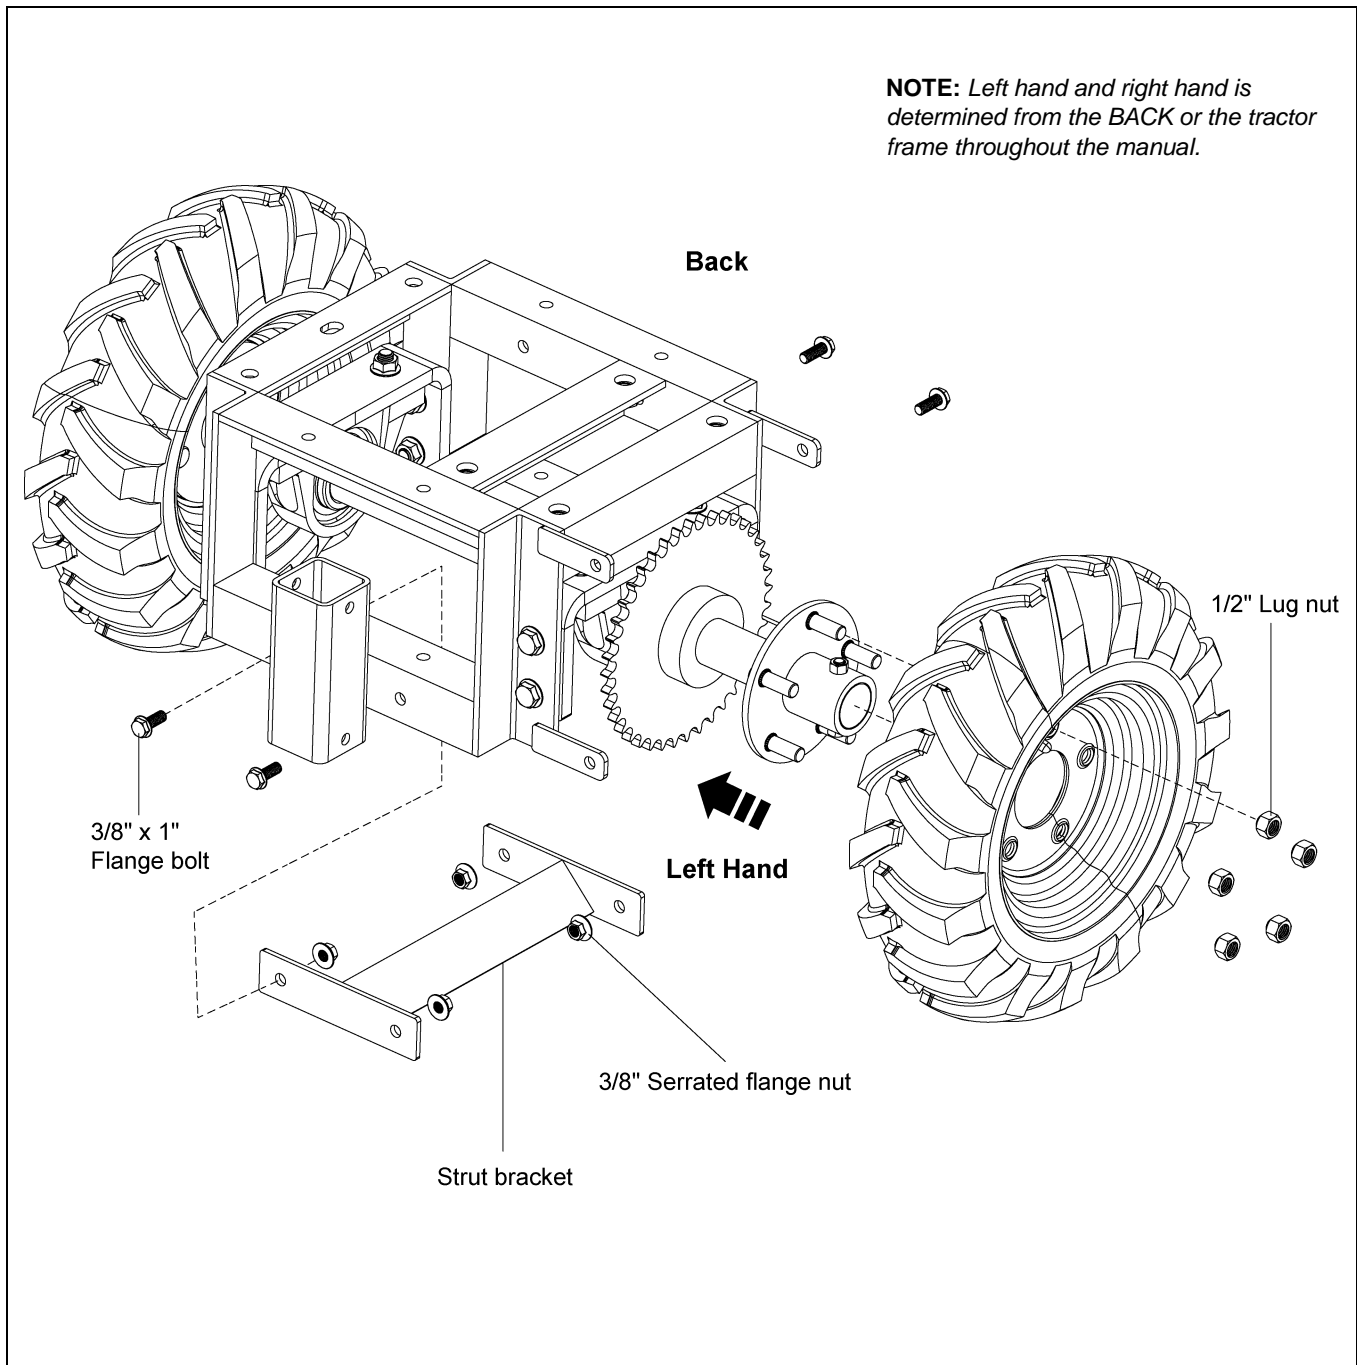

Figure 4C
NOTE: Make sure that the tires are assembled on corresponding sides with the help of valve stem. The valve stems should point away from the tractor frame. Remove the screws or nails that are present in the tires to contain the foam in the tires when they are made. The treads of the tires should be in the forward direction. Figure 4C shows the proper orientation of the tire and wheel assemblies.
- Assemble the strut bracket to the tractor frame using four (4) 3/8"-16 x 1" flange bolts and serrated flange nuts. (See Figure 4C.)